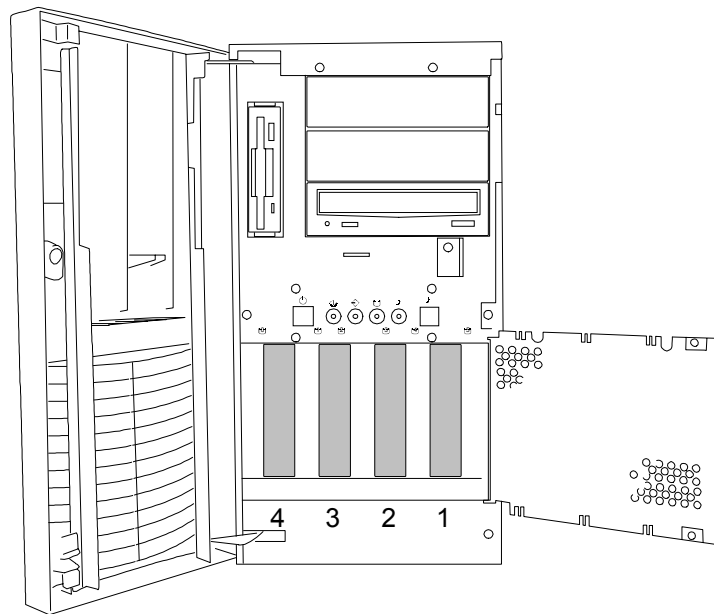

Figure 4-19. SCSI Disk Drive Installation Scheme
- If installing new drives, follow an installation scheme starting with the left-most drive. Fill the bays right-to-left (1 through 4). See Figure 4-19.